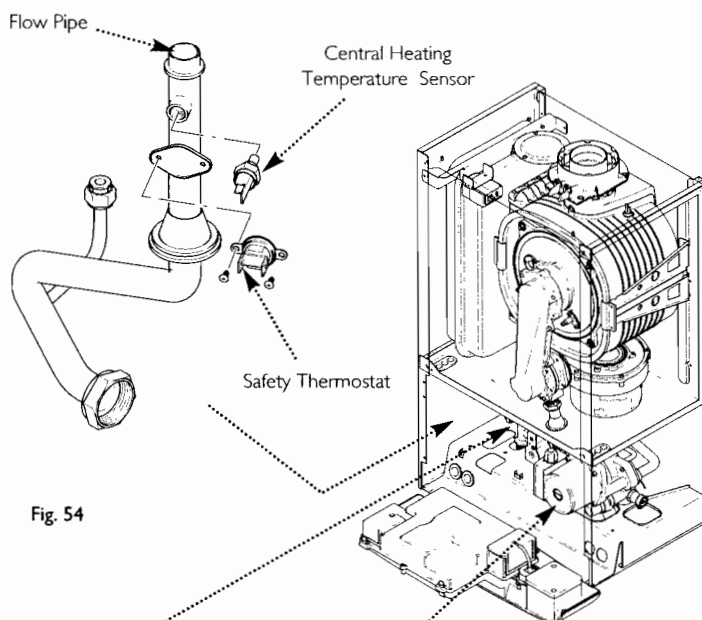

Fig. 54
12.10 Central Heating Temperature Sensor (NTC) (Fig. 54)
12.11 Safety Thermostat (Fig. 54)